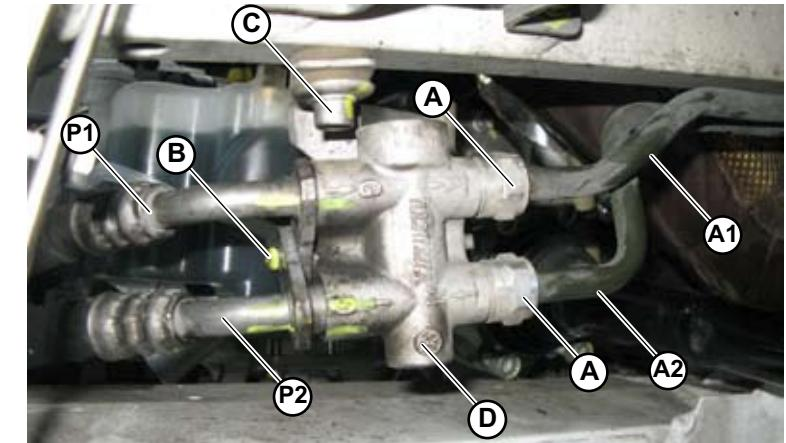
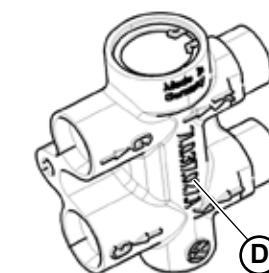

Fig.12
Fig.13
1. Unscrew the nuts (A-Fig.12) and disconnect the front A1 and A2 pipes from the temperature regulator.
2. Loosen the fixing screw (B-Fig.12) and disconnect the rear P1 and P2 pipes from the temperature regulator.
3. Loosen the screw (C-Fig.12) fixing the temperature regulator to the chassis.
4. Remove and extract the temperature regulator (D-Fig.12; D-Fig.13).